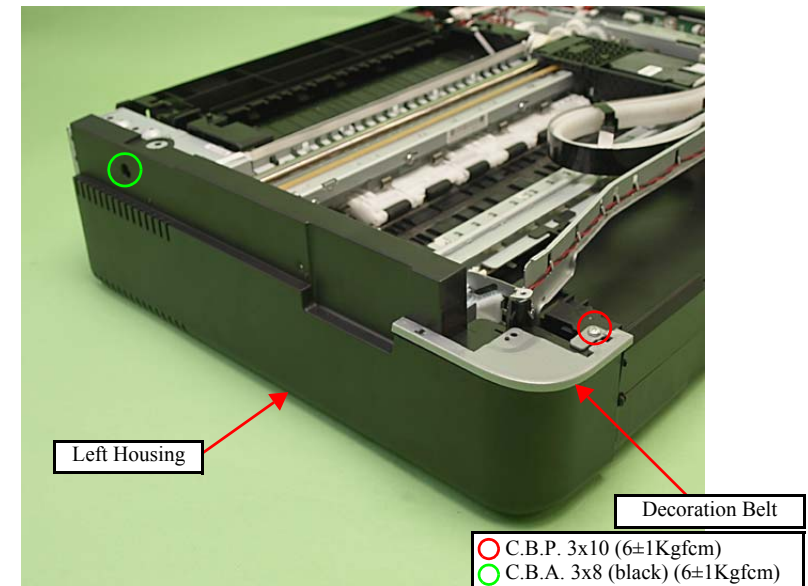

Figure 4-20. Removing the Left Housing / Decoration Belt L (1)
1. Remove the screw (x1) that secures the Decoration Belt and remove the Decoration Belt from the Left Housing. (See Fig. 4-20.)